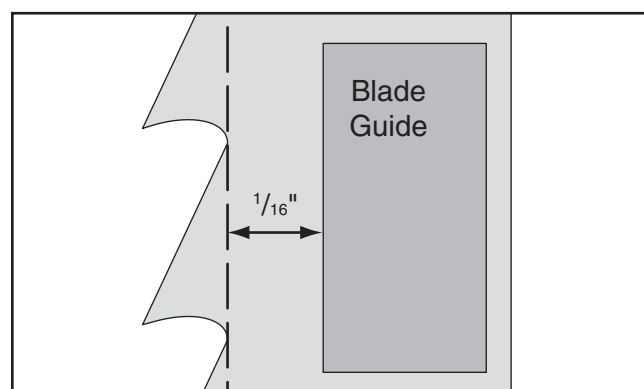

Figure 24. Blade guide positioned approximately $\frac{1}{16}$ " behind tooth gullets.
4. Move the blade guide bracket in or out from the guide post until the blade guides are approximately $\frac{1}{16}$ " (0.063") behind the teeth gullets (see **Figure 24**), then re-tighten the blade guide adjustment set screw.